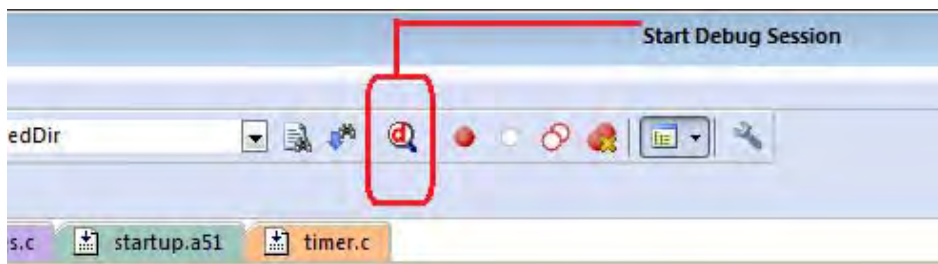

Figure 29. Beginning a Debug Session
8. Start your debugging session by clicking the **Start/Stop Debug Session** icon, as indicated in Figure 29. A default Windows configuration of the debug session is shown in Figure 30.